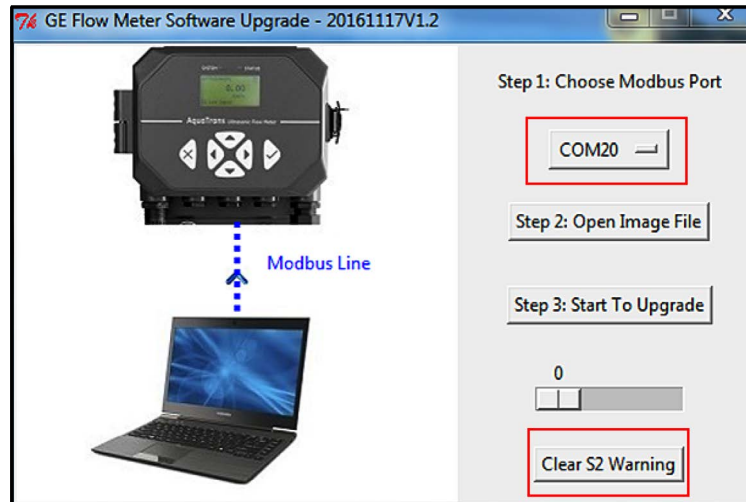

Figure 39: Clearing an S2 Warning
1. In the update software, click on the com port button and select the specific port that was used for the update (see top red box in *Figure 39* below).
2. Click on the clear S2 warning button (see bottom red box in *Figure 39* below).